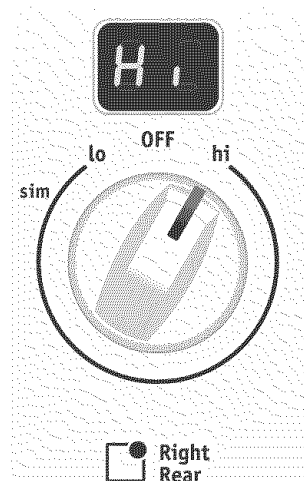

Fig. 4
2. Push in and turn the surface control knob in either direction to the desired setting using the ESEC digital display window for the desired setting (Fig. 4). Turn (do not push) the knob to adjust the setting if desired. Start most cooking operations on a higher setting and then turn to a lower setting to finish cooking. Each surface element provides a constant amount of heat at each setting. A glowing red surface heating area extending beyond the bottom edge of the cookware indicates the cookware is **too small** for the surface heating area.